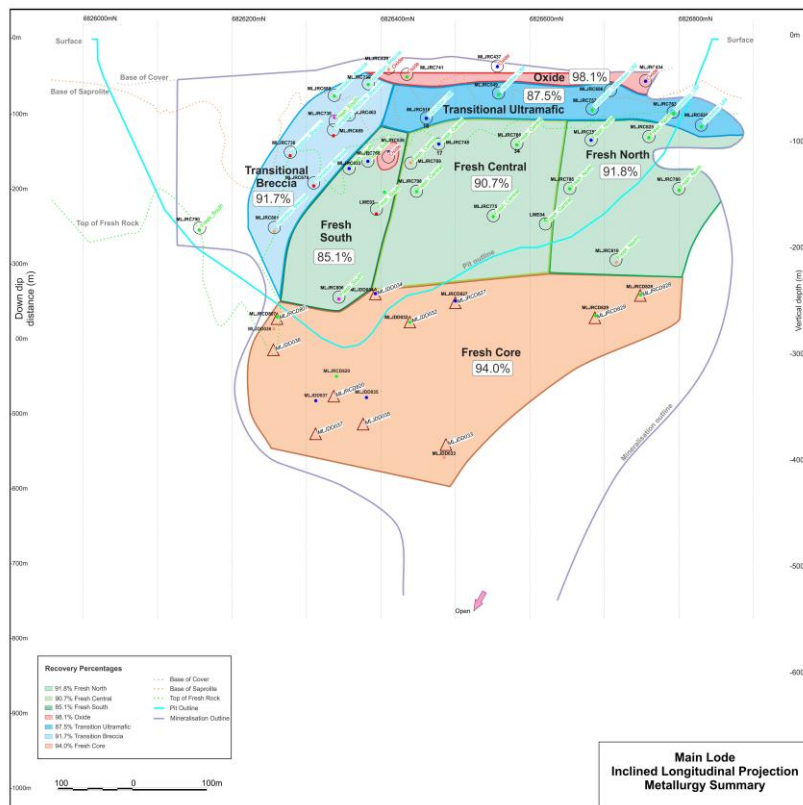

Figure 1 - LJN4 Deposit seven composites with their respective sample locations and metallurgical recoveries.
- Average gold recovery across all oxidation states in seven composites is in excess of 91% (Figure 1 and Table 1).